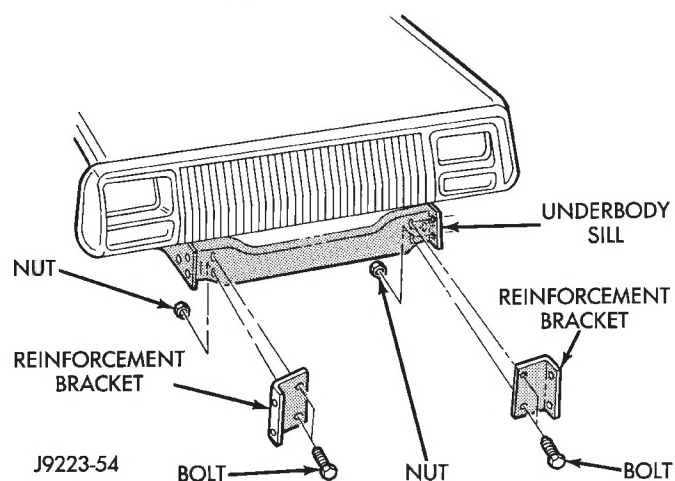

Fig. 11 Reinforcement Brackets
(1) If removed, install the sill crossmember reinforcement brackets on the sillmembers (Fig. 11). Tighten bolts to 56 N·m (41 ft. lbs.) torque.